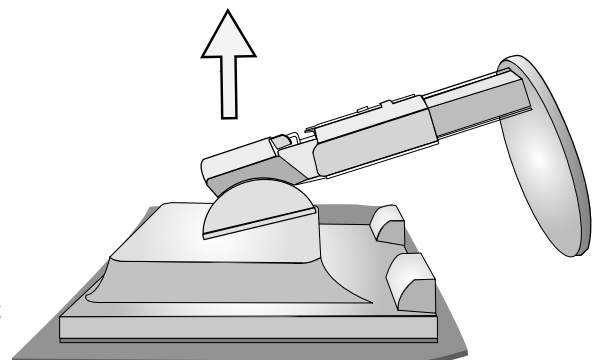

Figure S.3
5. Retirez le support (**Figure S.3**).